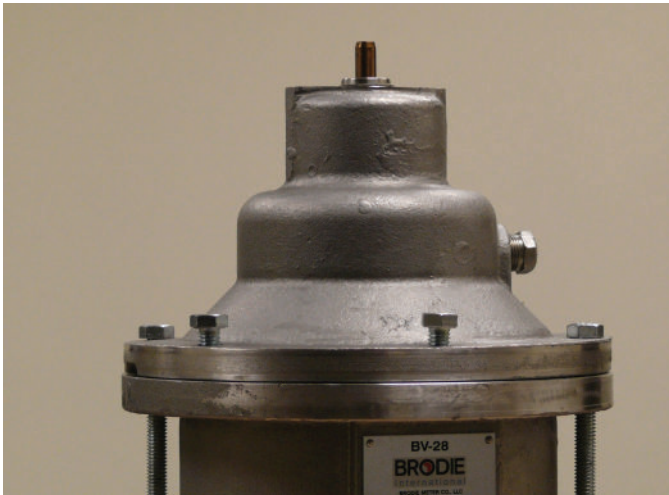

Figure 9-9 Power Cylinder Motor Cover
1. Remove 4 bolts (Item 35) from power cylinder motor cover (Item 28). (Figure 9-9)